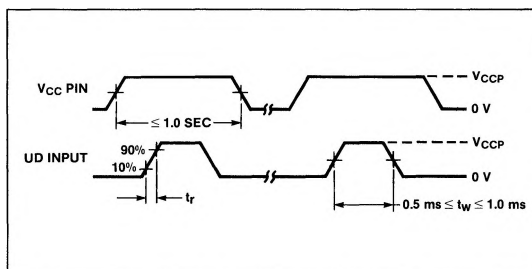

Figure 2. Address Programming Pulse
Step 3: After V_{CC} has stabilized, apply a single programming pulse (Figure 2) to the user-bus bit that corresponds to the desired high-level IV address bit. The I/O port is programmed from the user bus (UD0-UD7) for addressing from the MicroController bus (IV0-IV7).